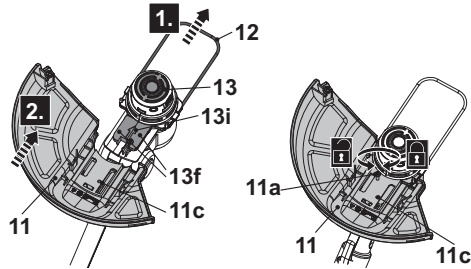

Fig. 1
1. Turn the trimmer head (13) upside down.
3. Put out the plant protector (12) firstly (Fig. 1, step 1), then align and slide the guard (11) onto the sliding slots (13f) of the trimmer head (13) (Fig. 1, step 2). Fully insert the guard (11) and make sure that the screw holes (11c, 13i) are well aligned.
4. Secure the guard (11) with the screw (11a) in clockwise (Fig. 1, step 3).